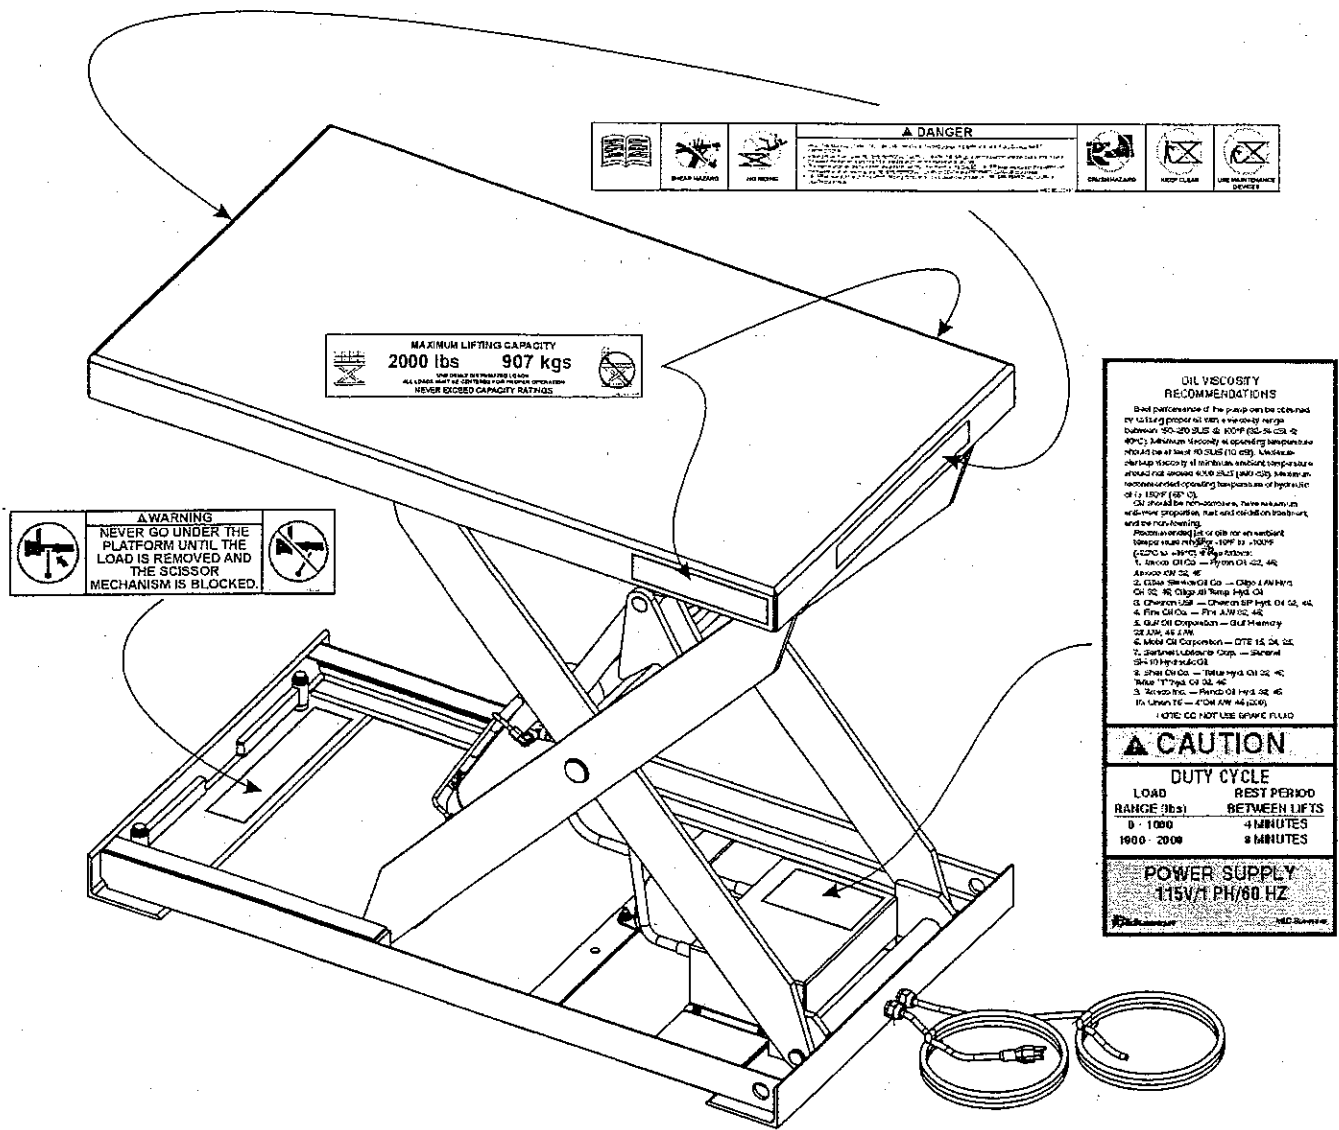

Figure 1 - Safety Warning Label Locations
**ALWAYS** ensure all safety warning labels are in place and legible. If not, remove the lift table from service and replace the required labels. Refer to Figure 1 for label descriptions and locations.